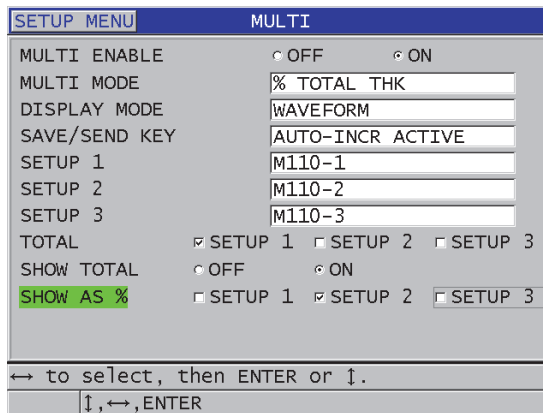

Figure 7-10 Setting multi-measurement parameters in the % total thickness mode
2. In the **MULTI** screen (Figure 7-10 on page 122):